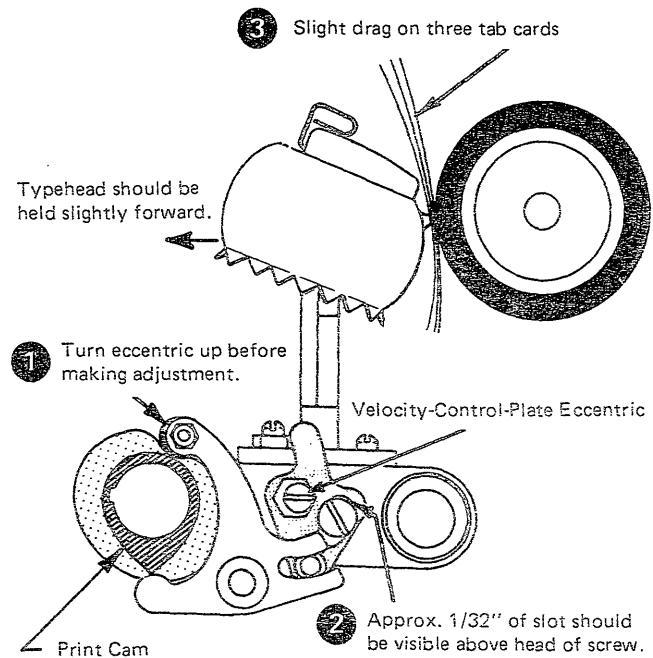

Figure 3-149. Velocity-Control Free Flight (Level 1)
NOTE: Print mechanism adjustments have been grouped into two levels so that the different adjustments can be more easily identified and followed. Level 1 can be identified by the print mechanism *without* the "stick shift" impression control: the mechanism may have either a gear, or gearless, tilt mechanism. See Figure 3-149.
The eccentric shouldered nut (Figure 3-149) on the velocity-control plate provides a means of controlling the vertical position of the velocity-control-plate pin, relative to the rocker, thereby controlling the free flight of the typehead.
1. Raise the anvil-adjusting eccentrics and the restoring-cam-follower eccentric, to prevent any interference, and remove the ribbon-feed plate for accessibility (Figure 3-149 and 3-151).